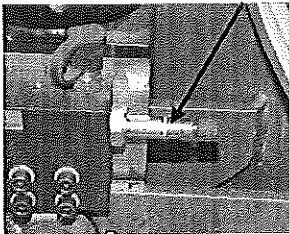

Figure 6
8. Slide the black coil off the end of the cartridge. Note orientation of coil and o-rings. See Figure 6.